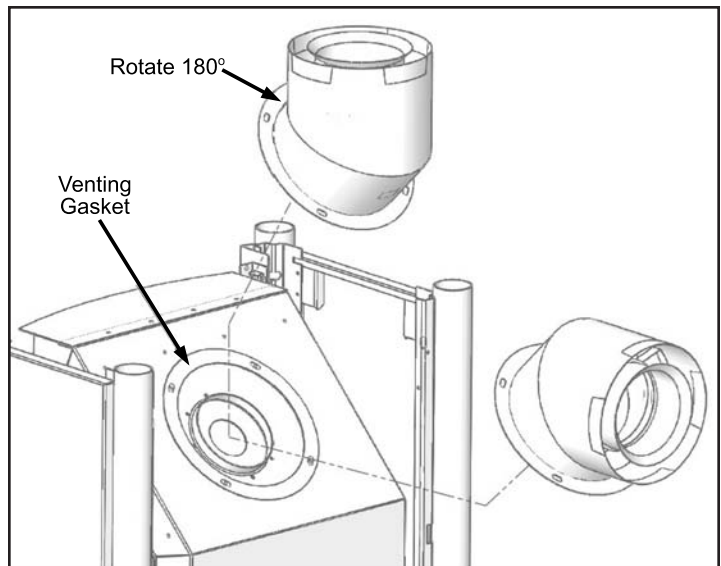

Figure 25: Converting Top Vented into Rear Vented.
- b. Remove the four (4) ¼" screws that hold the flue collar elbow to the unit body.
- c. Carefully remove the elbow being sure not to damage the gasket that is glued to the flue collar elbow, it seals the flue to the firebox (see Figure 25).